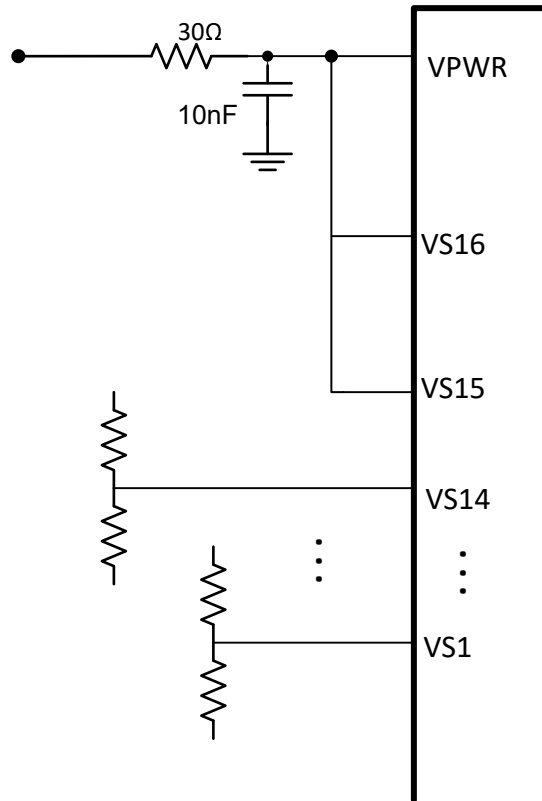

图 9-7. Unused Pins Tied to VPWR
- Short unused VS pins to VPWR as shown in 图 9-7.
Unused VS pins need to be tied to VPWR as shown in 图 9-7.